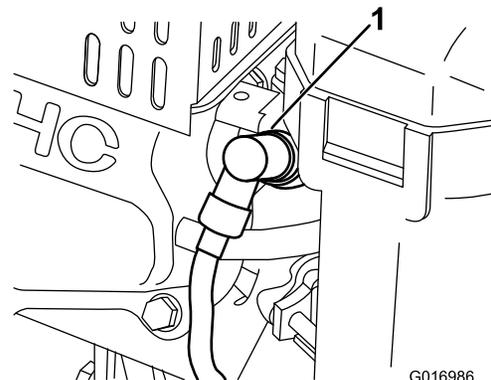

Figure 26
1. Pull the molded wire off of the spark plug (Figure 26).